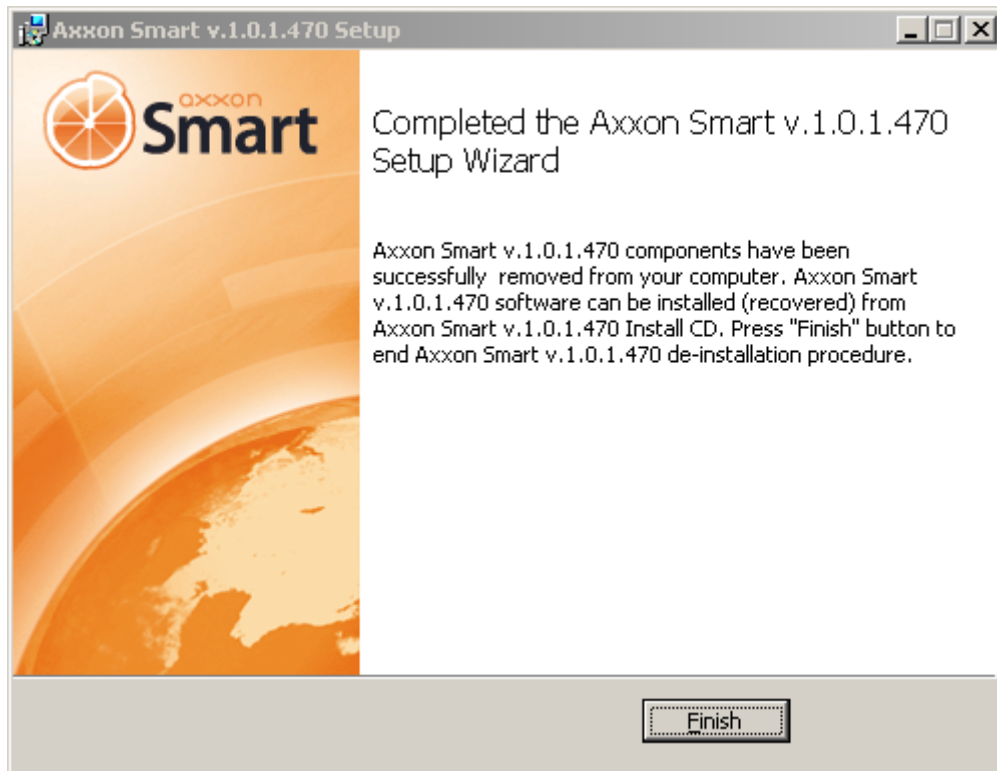

Figure 1.2.3-5
**Step 6.** To completely delete the Axxon Smart software from your computer, manually delete the /Axxon Smart program folder and all /Video folders created for video archive storage (Figure 1.2.3-6).